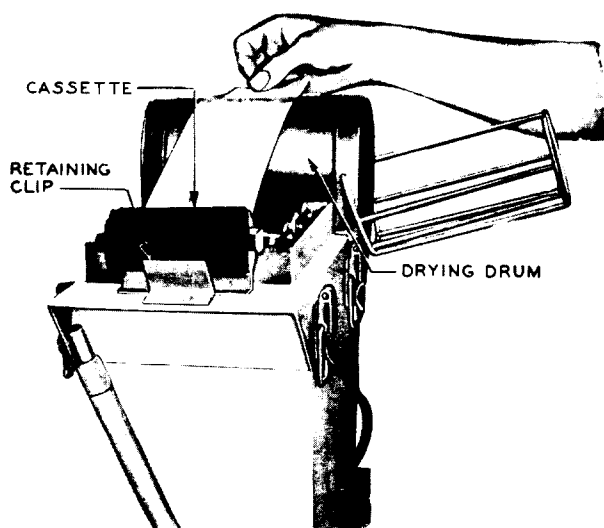

Fig. 14 – Drawing Paper Over Drying Drum of Photo Processor
7.04 Remove the wrapping and spacers from the cassette containing exposed paper to be processed. Hold the cassette containing the paper to be processed with the side marked UP uppermost. Pass the paper from the cassette through the opening in the cassette holder and position the cassette in the holder as shown in Fig. 14. Make sure that the cassette is held securely in the holder by the retaining clip and that the opening in the cassette is approximately at the center of the opening in the holder.
7.05 Draw the paper from the cassette over the drying drum, as shown in Fig. 14, and down against the winding drum. Exercise care not to touch the hot drying drum. Mount the